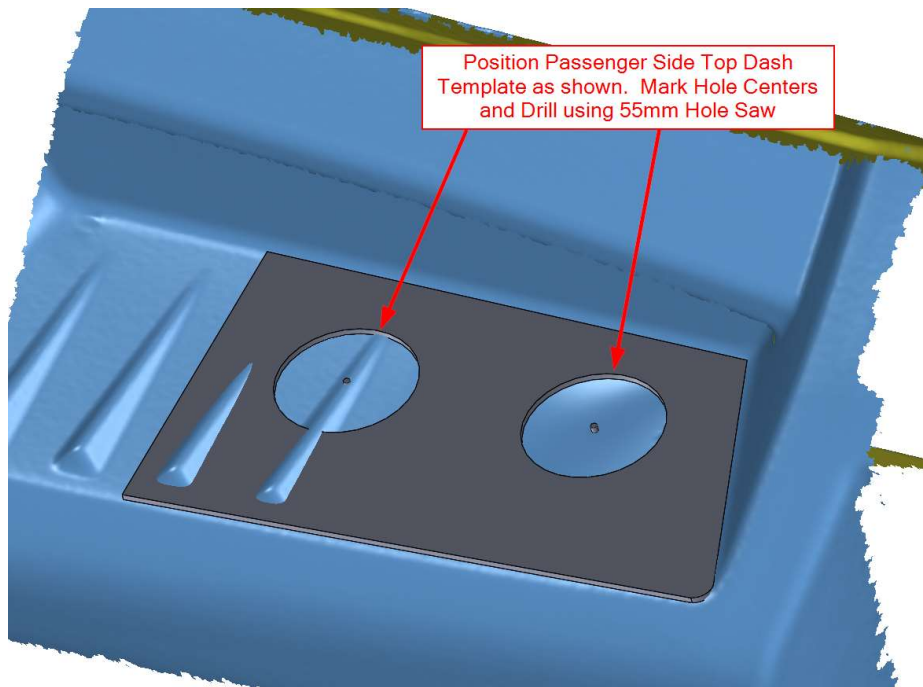

Figure 8
- d. Position the Passenger Side Top Dash Template as shown in Figure 8. Transfer the hole centers and drill using the 55mm Hole Saw. Due to the uneven surface it might help to pilot drill the holes first.